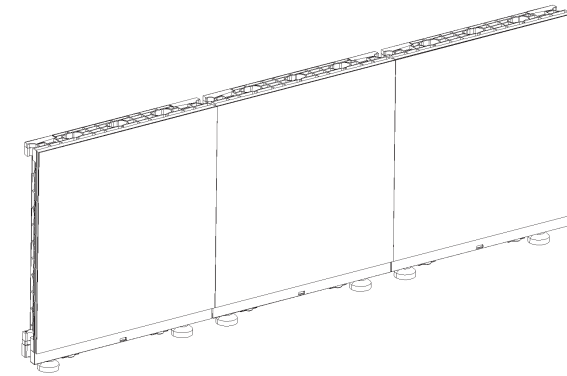

Figure 3.1.2.1 Design diagram of ground support installation in front side
2. In addition, the hanging beam can also be used as ground support: When the ground is not flat, it can ensure flat installation of the screen, as Figure 3.1.2.1, 3.1.2.2.